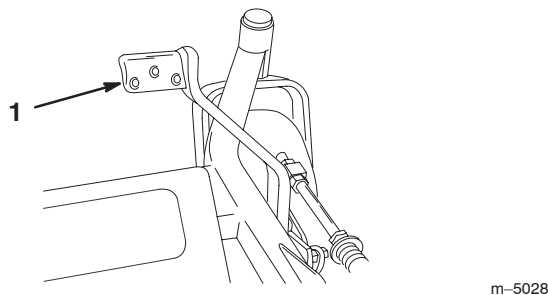

Figure 17
2. Press on the lift assist lever while pulling up on the height-of-cut lever (Fig. 17).